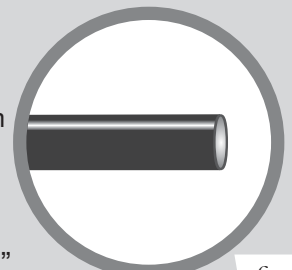

fig. 10
When cutting air lines, use a sharp knife or a hose cutter and make clean, square cuts (Fig. 10). Do not use scissors or wire cutters because these tools may deform the air line, causing it to leak around fittings. Do not cut the lines at an angle.
- a. Check the air line connection by deflating the spring and removing the line by pulling the collar against the fitting and pulling firmly on the air line. Trim 1" (25mm) off the end of the air line. Be sure the cut is clean and square (see Fig. 10). Reinsert the air line into the push-to-connect fitting.